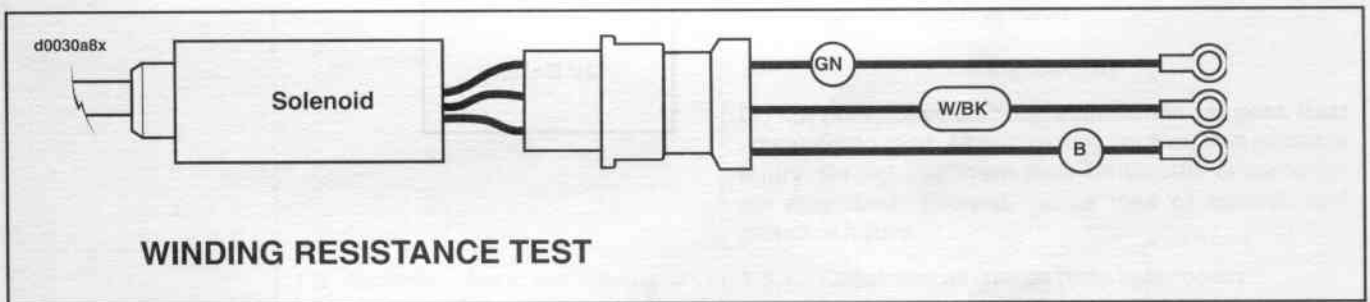

Figure 8-57. Resistance Test Hookup
- See Figure 8-57. Connect the solenoid test harness to the solenoid as shown.